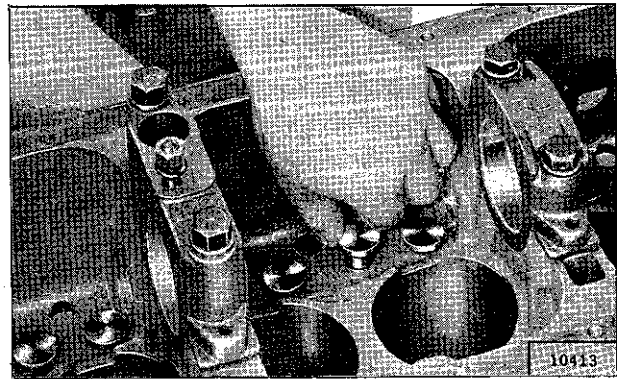

FIG. 29—REMOVING VALVE TAPPET FROM CYLINDER BLOCK
- c. Carefully withdraw the camshaft from the front of the engine in the manner shown in Fig. 29 so as to prevent damage to the camshaft bearings.
With the camshaft out of the cylinder block, remove the tappets from the bottom or crankshaft side of the cylinder block as shown in Fig. 29. Place